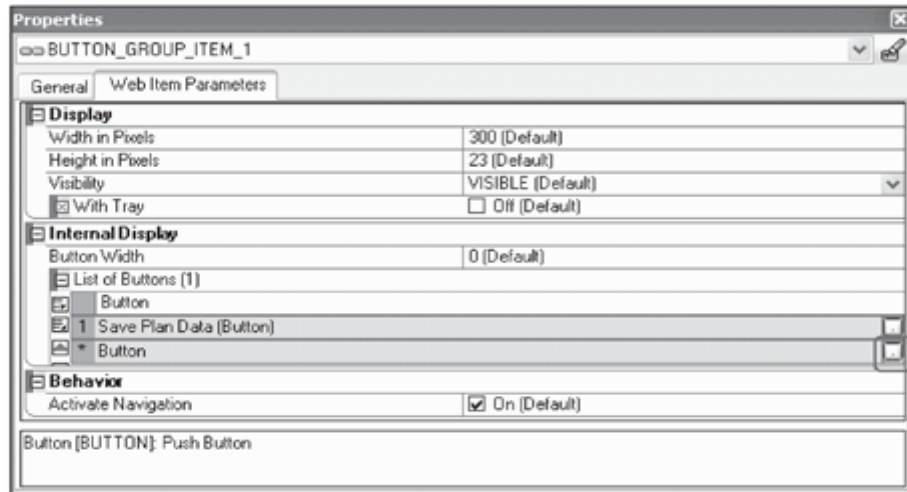

Figure 12.98 Add New Button
12. On the web item properties screen, the first button to save the data is defined. Let's now add a button to execute a planning function to copy values from a previous year. Click the button shown in Figure 12.98 to create another button.